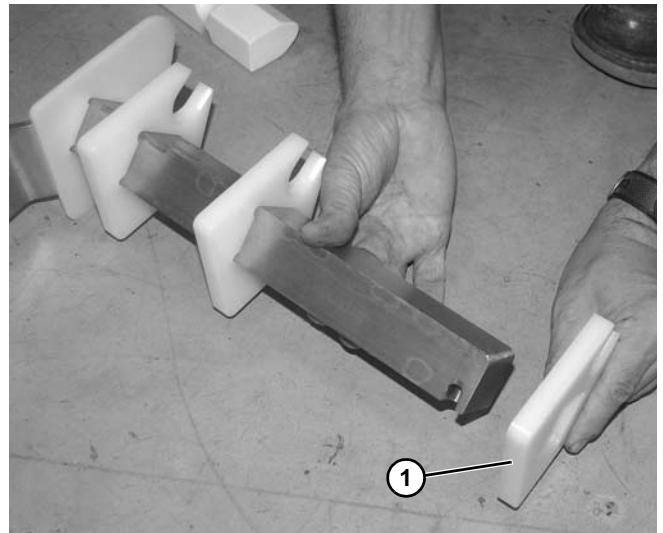

Figure 102
- Remove the pucks (Figure 102, item 1) from support bar.